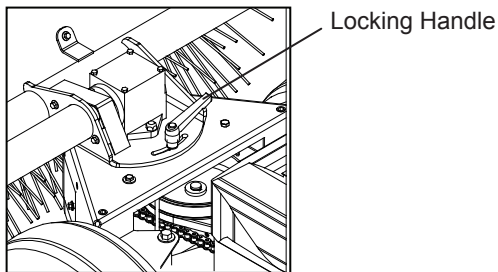

figure 1
1. Lift and rotate the locking handle counter-clockwise to loosen. (figure 1)